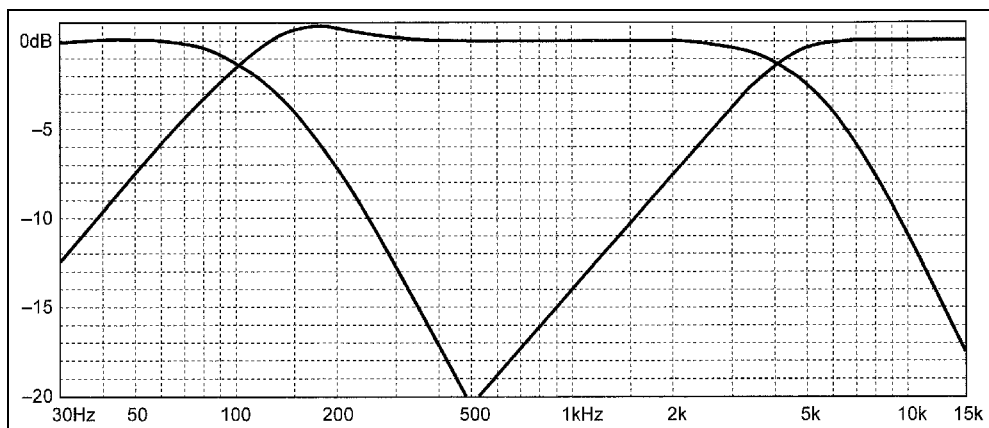

Figure 7 - DAVID-III Triband Frequency Division
- Band Division** The *DAVID-III* works on the program audio signal in three frequency bands. These are nominally BASS, MASTER (midband) and BRILLIANCE. A graphic representation of band-splitting is shown in Figure 7 on the next page.
Figure 7, including the 1dB 'hump' at 175Hz. Note that the high-pass characteristic of the midband is only first-order, even though it was derived from a second-order subtraction. But wait, that's not all!